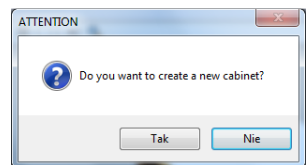

Fig. 195 – request for confirmation
- you will see a message (Fig. 195), and when you click **Yes** a new cabinet will be created, which can be freely modified using the features described above.